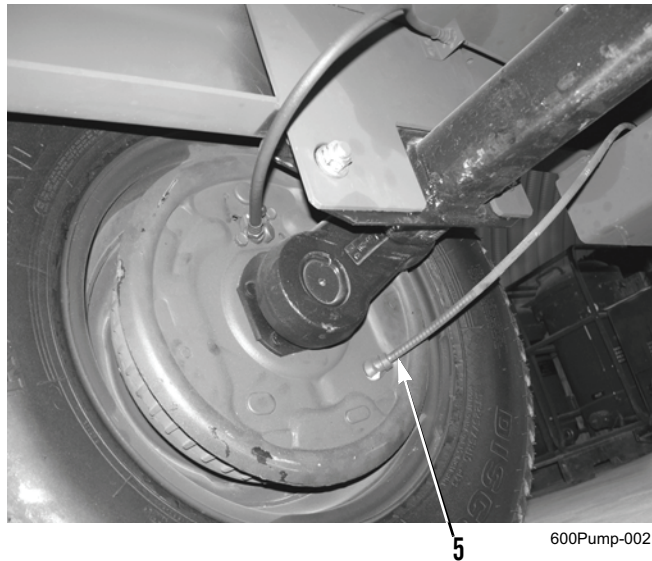

Figure 2. Hand Brake Cable at Backing Plate.
8. Ensure sheath (Figure 2, Item 5) with cable is securely installed on backing plate of wheel assembly.